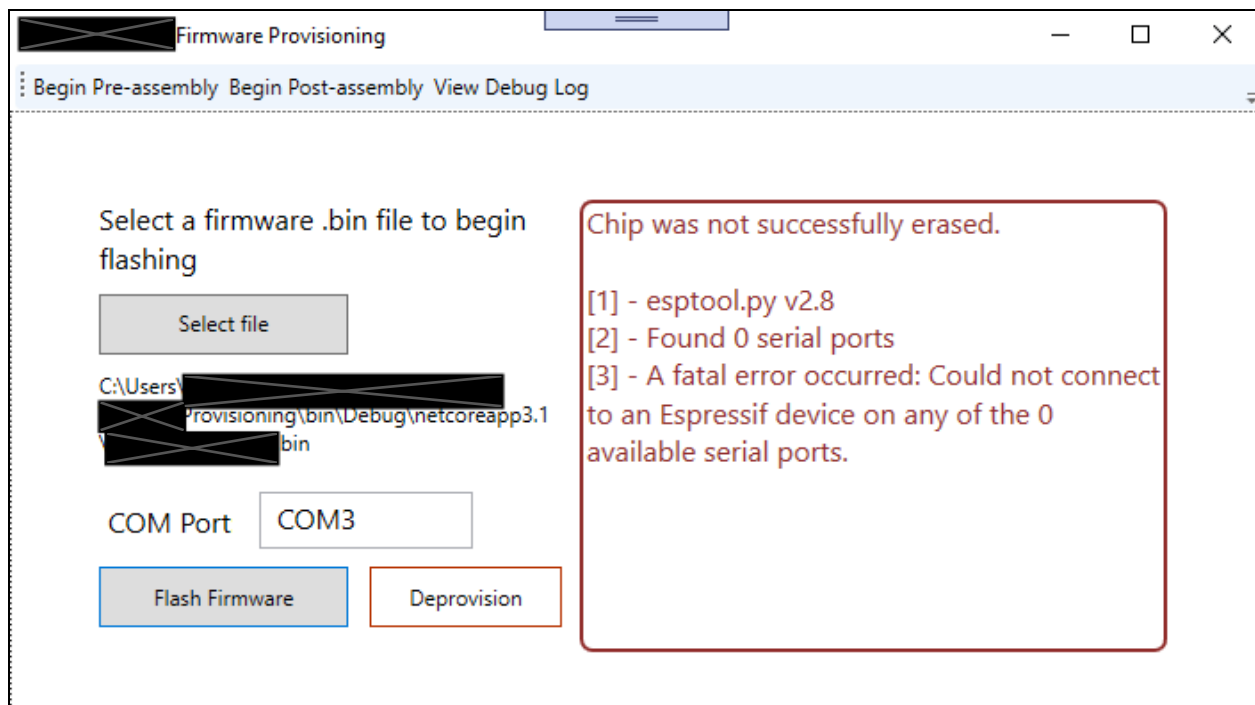

Fig. 3
5. If the firmware flash fails, It should display output similar to Fig. 3 that should help identify the cause of the failure.